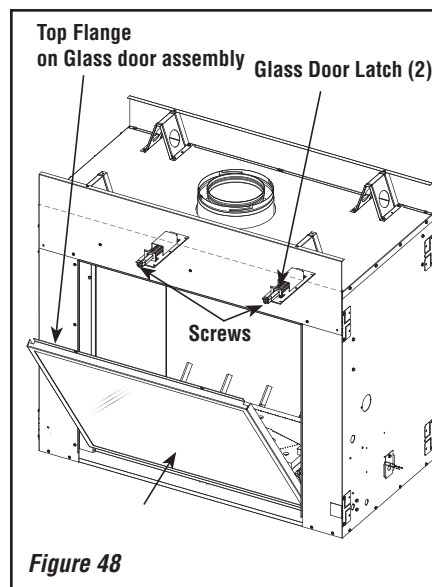

Figure 48
Installing Glass Doors, Mesh Pull Screens, and Modesty Panel (see Figure 48)
- b) Position the door in front of the firebox opening, with the top of the door held away from the fireplace (see **Figure 48**).
- d) Using a #3 Phillips screwdriver, fasten the door frame to the door latches with the two (2) latch screws. The latches should pull forward to engage the door frame.
Removing Glass Doors, Mesh Pull Screens, and Modesty Panel (see Figure 48)
- a) See **Figure 48**. While holding the top of the glass door frame in place, use a #3 Phillips screwdriver to remove the two (2) screws securing the door frame to the two (2) door latches.
- b) Carefully tilt the top of the glass door frame away from the unit (as shown in **Figure 48**), and then lift the door assembly up and out of the lower track.